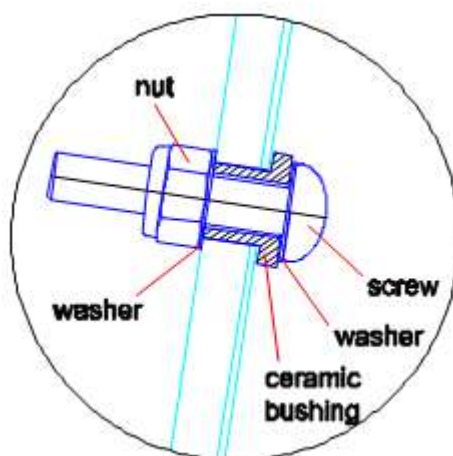

Figure 2. Hardware at the firewall (2 places).
9. Remove the hardware holding the ceramic bushings located on the left side of the upper firewall outboard of the engine mount. See Figure 2.